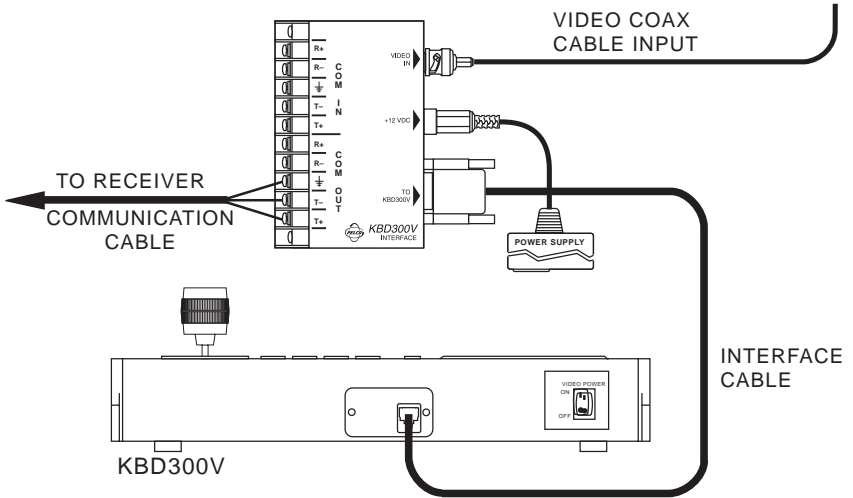

Figure 3. Keyboard Cabling Diagram
To connect the keyboard (refer to Figure 3).
- 5** Refer to Figure 3. Make receiver cable connections to the COM OUT terminals on the interface module.